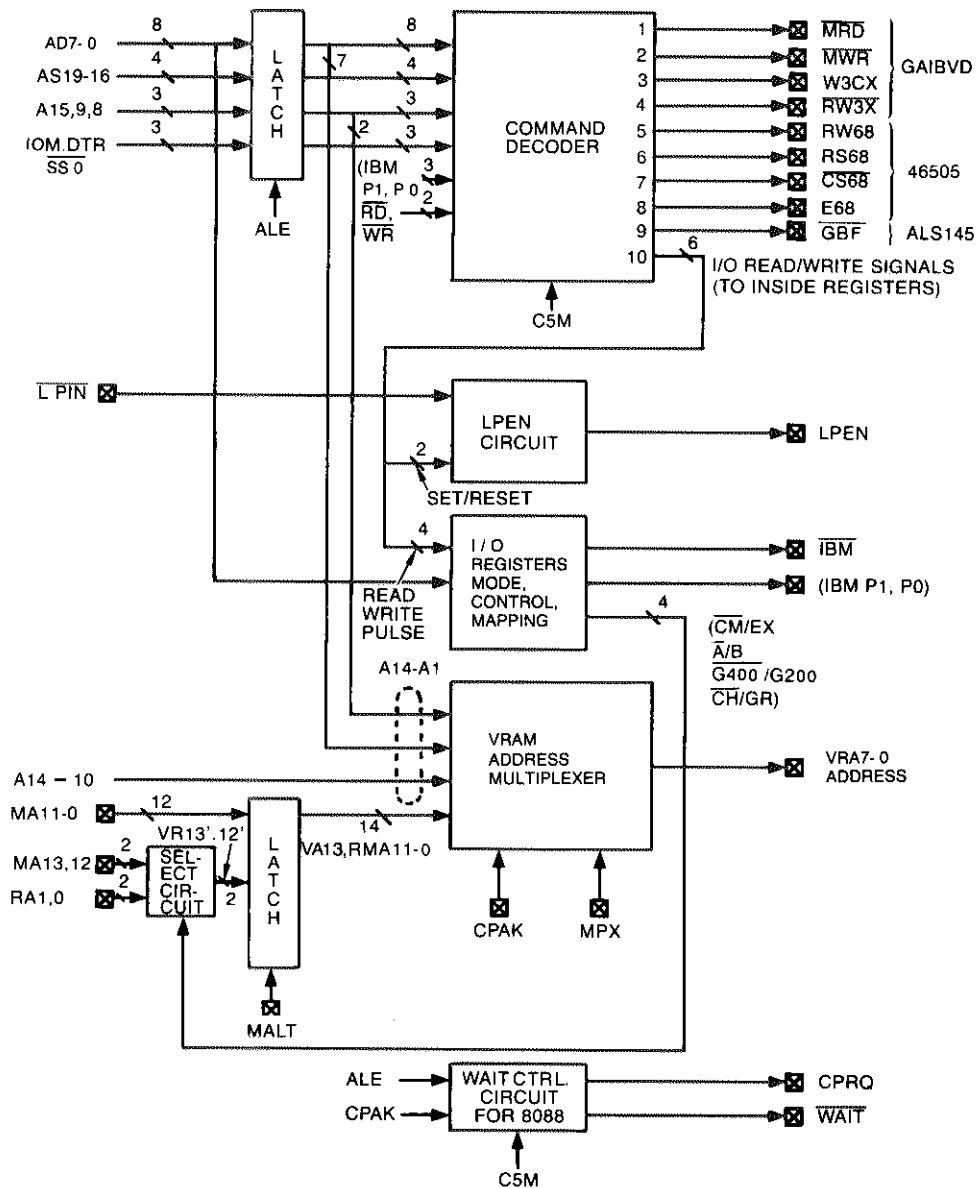

FIGURE 2-84. GAIBVA LSI BLOCK DIAGRAM
2.5.4 GAIBVA LSI Gate Array (Figure 2-84)